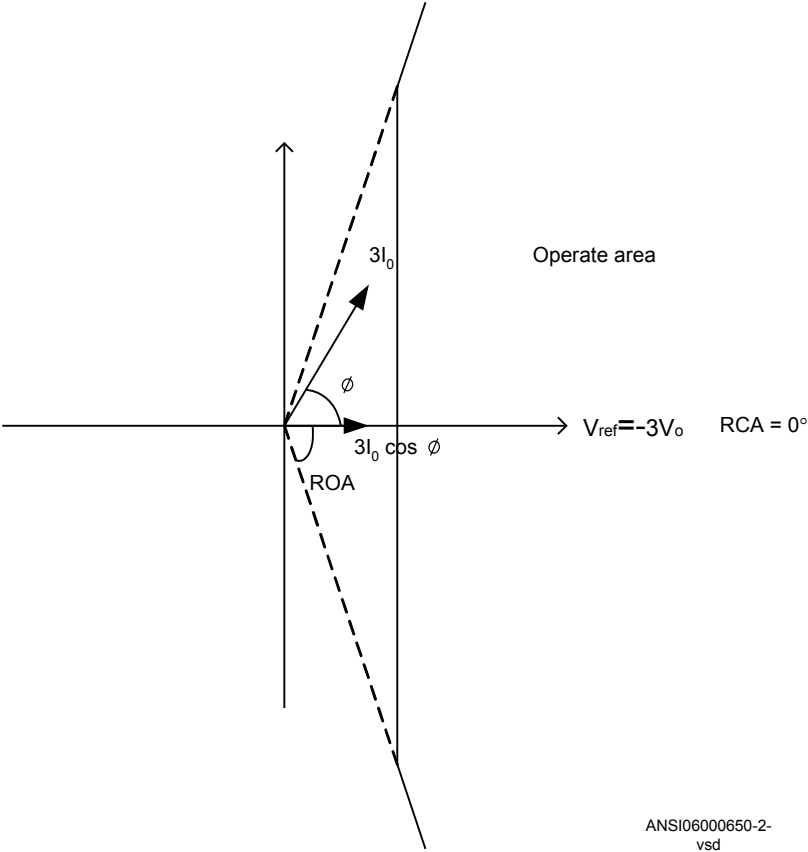
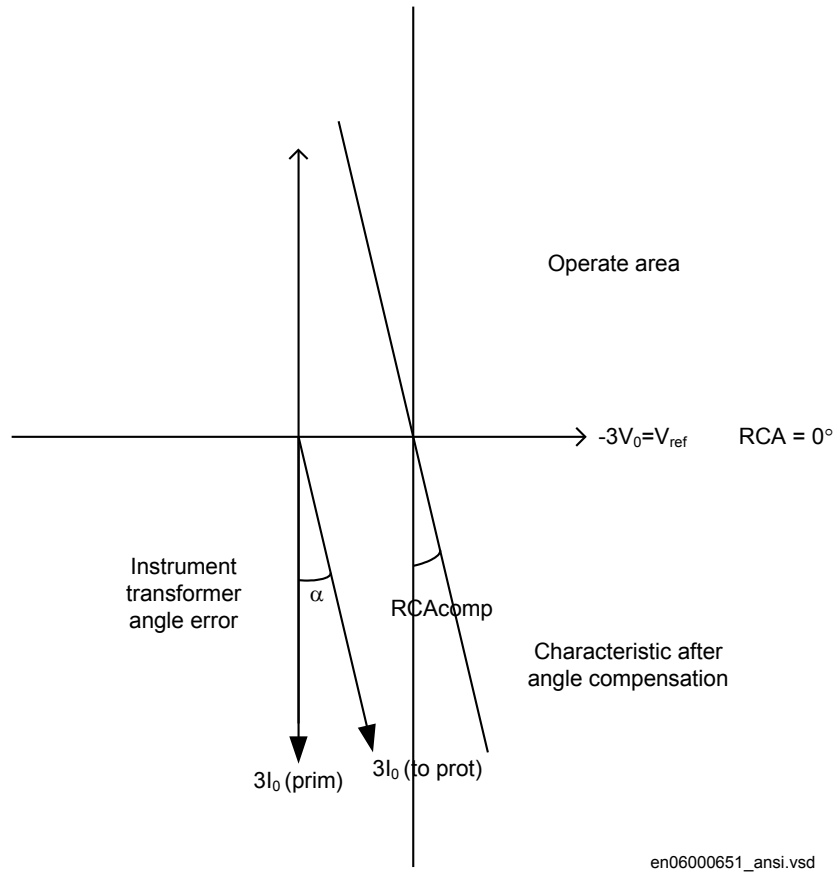

Figure 9: Characteristic with ROADir restriction
Figure 10: Explanation of RCAcomp
Take the set characteristic into consideration, see figure 9 and figure 10.
4. Compare the result with the set value. Take the set characteristic into consideration, see figure 9 and figure 10.